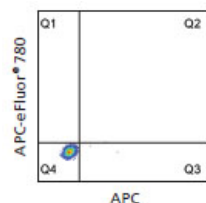

Figure A3.1. Unstained sample.
- b. Looking at the two-parameter plots, create quadrant regions on each plot such that the cells fall within the lower left quadrant (Figure A3.1).